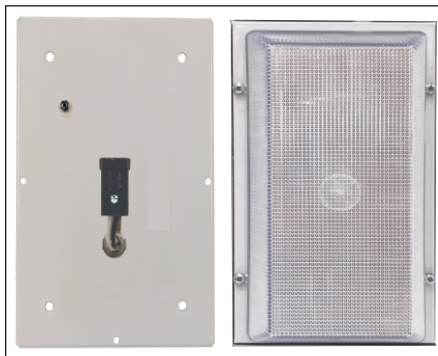

Figure 1
1. Start by removing the Lens from the original luminaire. See Figure 1